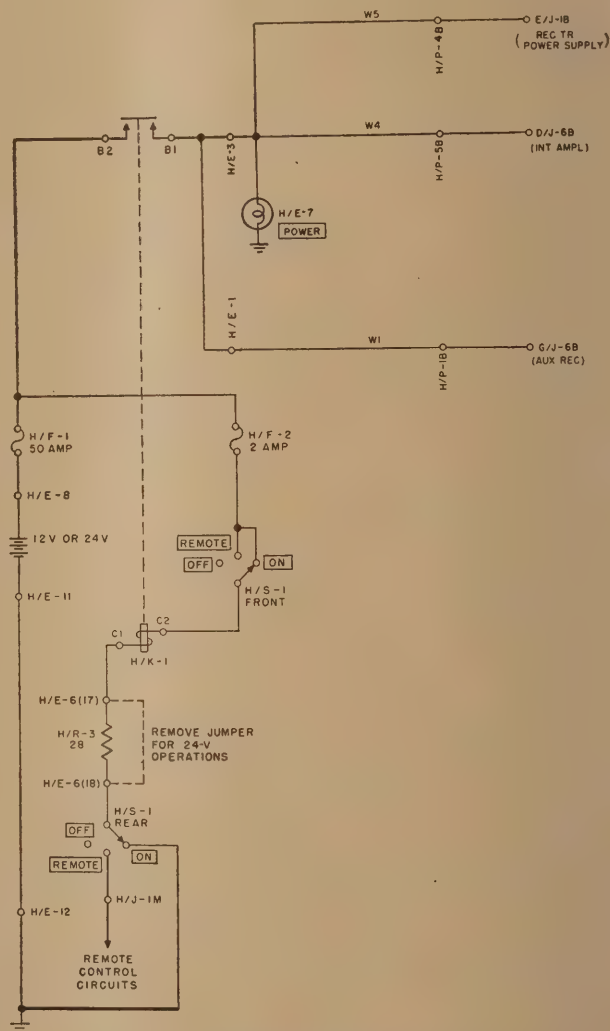

Figure 35. Primary power application, schematic diagram.
b. Partial schematic diagrams (figs. 35 through 41) are presented to aid in understanding the discussion. The diagrams are portions of the main system power distribution circuit (fig. 94). Figure 95 is similar to figure 94 except that the circuits through Control Group AN/GRA-6 (auxiliary equipment) are shown instead of those through Control Box C-375/VRC.
69. Primary Power Application (fig. 35)